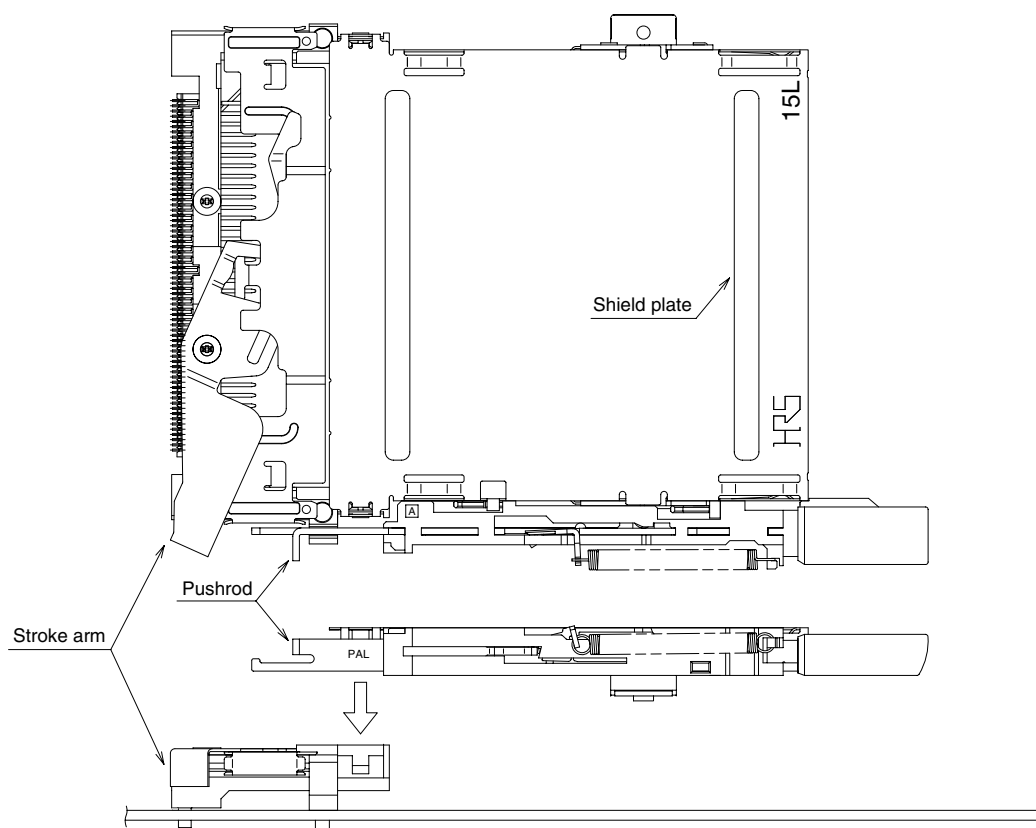

Fig. 3
(2) Align the left and right locking tabs (Fig. 4) of the Guide unit shield plate with the left and right openings on the SMT unit insulator. (Fig. 3)